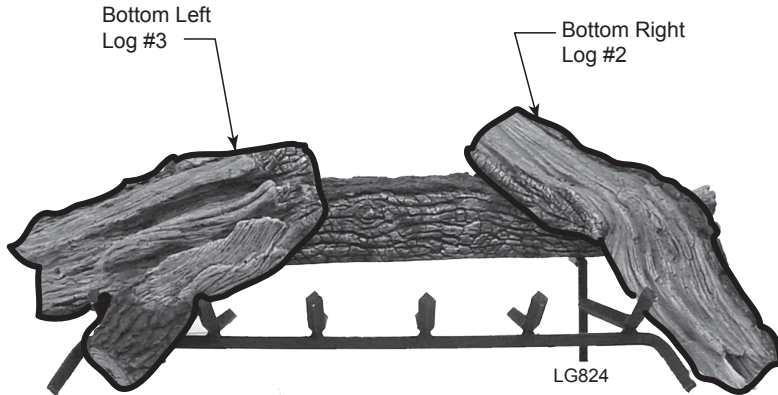

Figure 55 - Place Bottom Right Log #2 and Bottom Left Log #3
2. Place Bottom Right Log #2 along outside of grate. Rest end on Rear Log #1. Control knob will stick through bottom notch of log. *Figure 55*
3. Place Bottom Left Log #3 on grate. The "V" of the log should straddle the end grate bar. *Figure 55*